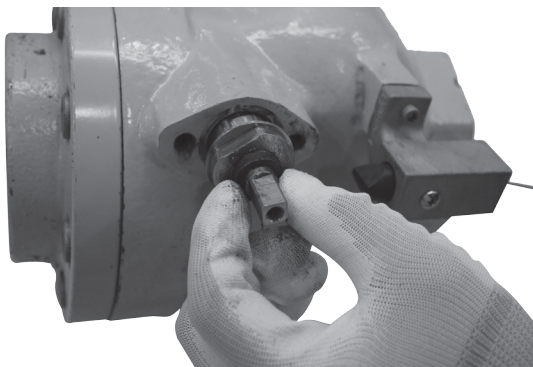

Figure 17. Install graphite adaptor (step 7)
7. Install the graphite adaptor flat side out, Figure 17.